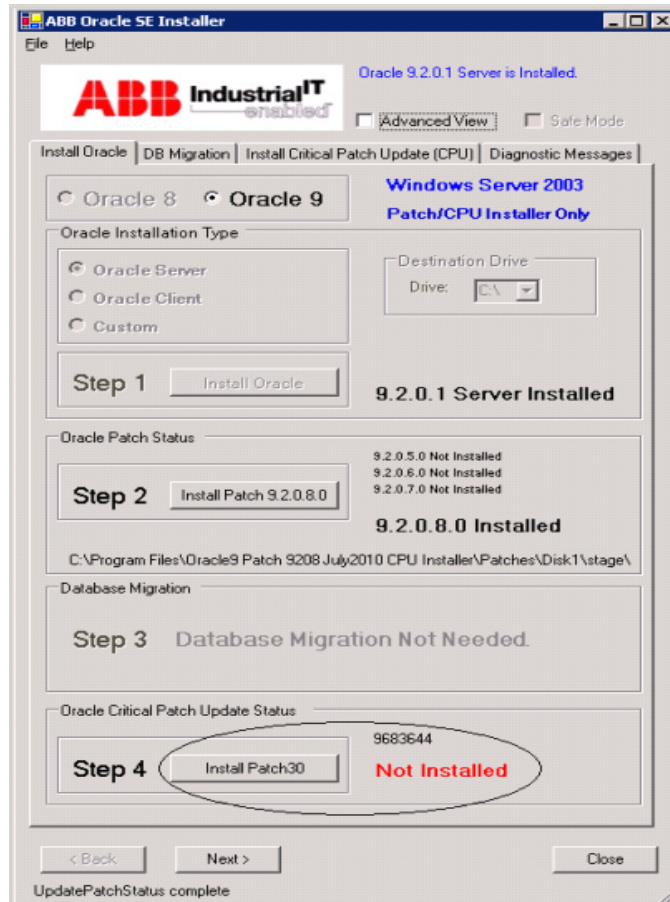

Figure 1. ABB Oracle Installer
3. To launch the ABB Oracle Installer (Figure 1) double-click the executable file.
1. Click **Install Patch30** (Figure 1) to install the Oracle 9 CPU.
2. Click **Install Patch30** (Figure 1) to install the Oracle 9 CPU.